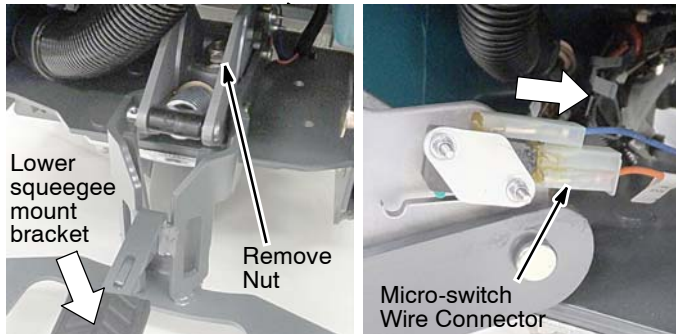

Fig. 1
2. Lower the squeegee mount bracket to floor. Using a 17mm socket wrench, remove nut from pivot stud. Disconnect the wire connector from micro-switch (Figure 1).